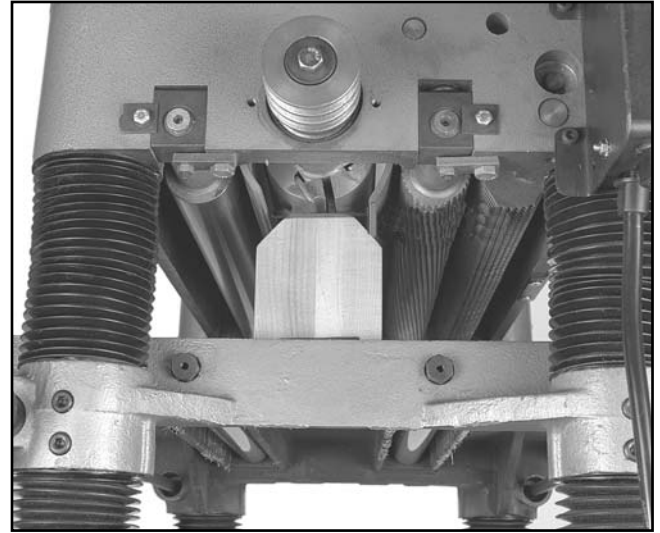

Figure 9. Using block to align cutterhead.
1. Place Block "A" on the table under the left end of the cutterhead. Raise the table until the block touches the bottom of the cutterhead. **See Figure 9.**